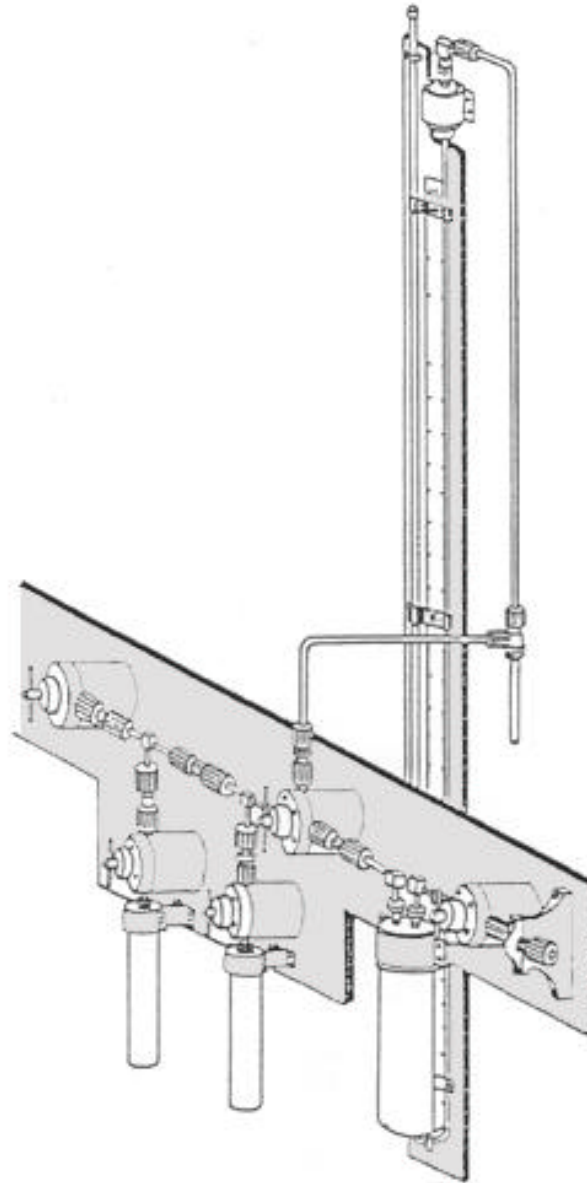
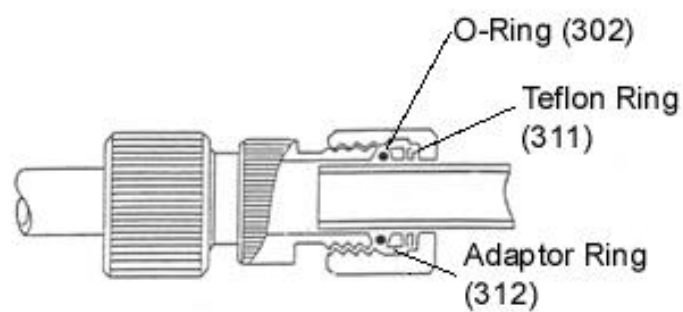

Figure 6 Tube Connection between Valve-Panel and Manometer-Panel
Figure 7 I-Type Connector (301) using Perflon O-Rings
2. Fix an L-Type Tube Connector (304) on the top of the manometer and join a longer L-Shaped Tube (701), Mercury Trap (305 + 704) and a shorter L-Shaped Tube (702) as shown in Figure 6 on page 5. Finally, the Manometer and the vacuum line are connected, using an I-Type Connector (301). Figure 7 on Page 5 illustrates this procedure.